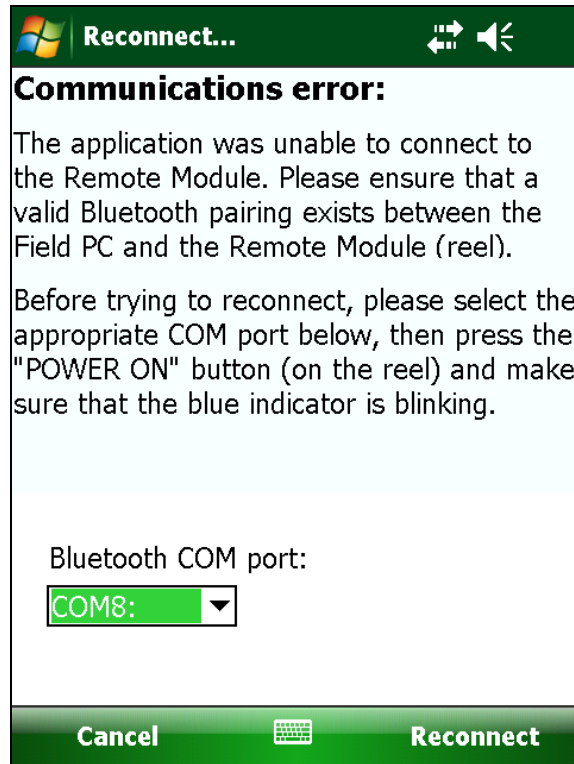
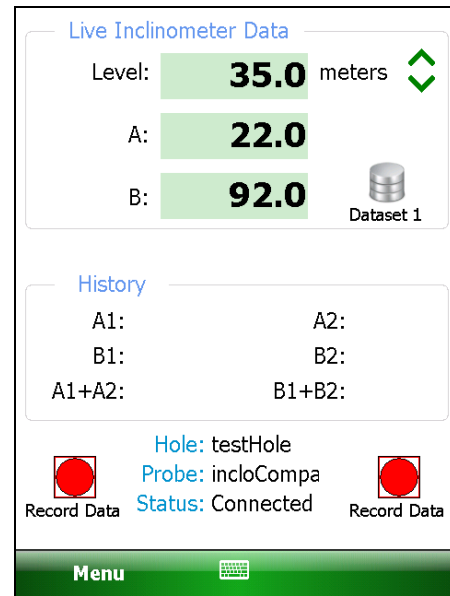

Figure 28 - Remote Module Connection Problem
Figure 32 - Live Readings Screen
8. From the "Port:" drop-down list, select a COM port (COM5 is the default). Be sure to remember the number of the COM port as you may have to select it later in the readout software (see sections 3.3.1 and 3.3.3, as well as Figure 28). Make sure to "uncheck" the "Secure Connection" check-box. Tap "Finish" when done to return to the Bluetooth Settings "COM Ports" screen.
Tapping on this menu item initiates the Remote Module connection process and after a successful connection, the Live Readings screen will be displayed (see Figure 32). Should the connection attempt fail, the window shown in Figure 28 will be displayed with suggestions for correcting any issues before re-trying.
To dismiss the "View saved data" window tap on "ok" which will then display the "Load previous data" prompt (see Figure 31). Tapping "Yes" on the Load previous data" window will load the temporary data into memory and then display "Live Readings" (see Figure 32). Tapping "No" will load "Live Readings" as normal (see Figure 32).
2) The "Live Readings" screen is displayed (Figure 32).
This feature requires an active connection to a Remote Module and will attempt to connect when invoked. If a connection cannot be made, the window shown in Figure 28 will be displayed.
- None** On the Live Readings Screen, the only indication of stability will be to monitor the A and B readings (see Figure 32).